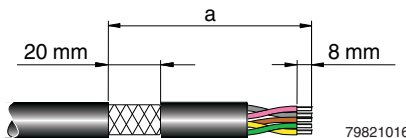

Figure 7-5 Connecting the shielded cable
- Strip approximately 20 mm off the outer sheath of the cable at the required distance from the end of the cable (a on Figure 7-5). The necessary distance a depends on the distance to the busbar.